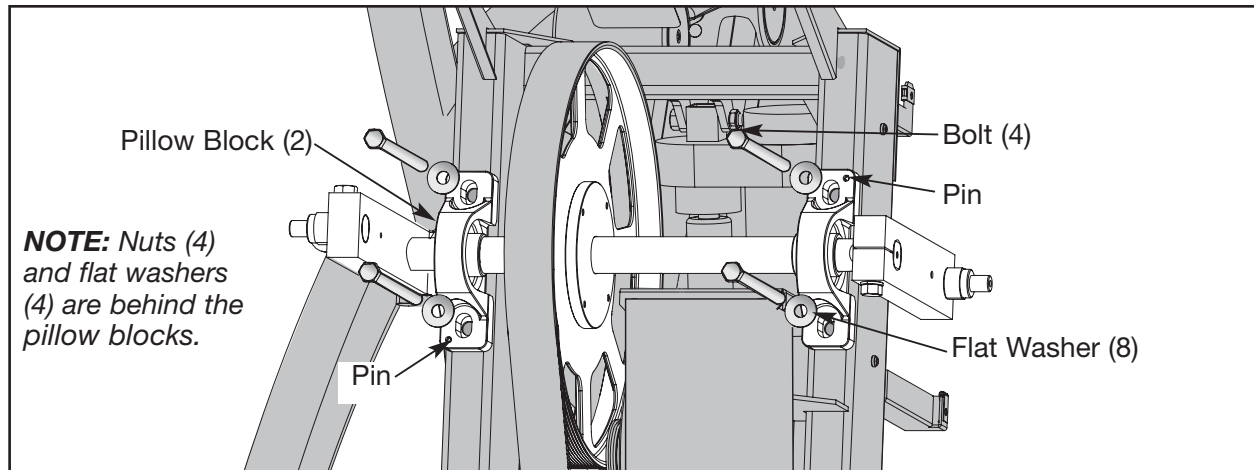

Figure 12
A. Using a 9/16" socket wrench and a 9/16" open end wrench, remove the two bolts, four flat washers and two nuts from each of the top pillow blocks. See Figure 12.
- A.** Confirm that a pin (removed in step 9B) protrudes about 1/4" out of the back of each pillow block. **NOTE:** The pins will slide into the frame in the next step. See Figures 12 and 13.
- C.** Using a 9/16" socket wrench and a 9/16" open end wrench, secure the two bolts, four flat washers and two nuts (removed in step 9A) to each pillow block. See Figure 12.
- B. Confirm that the secondary drive belt is straight and centered on the lower pulley. See Figure 12.